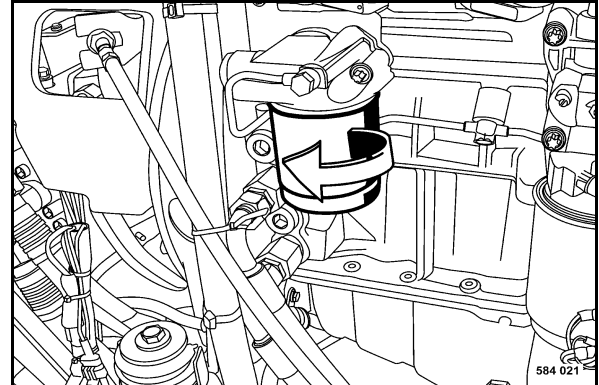

Fig. 141
- Unscrew the filter cartridge (Fig. 141) using an appropriate filter wrench.